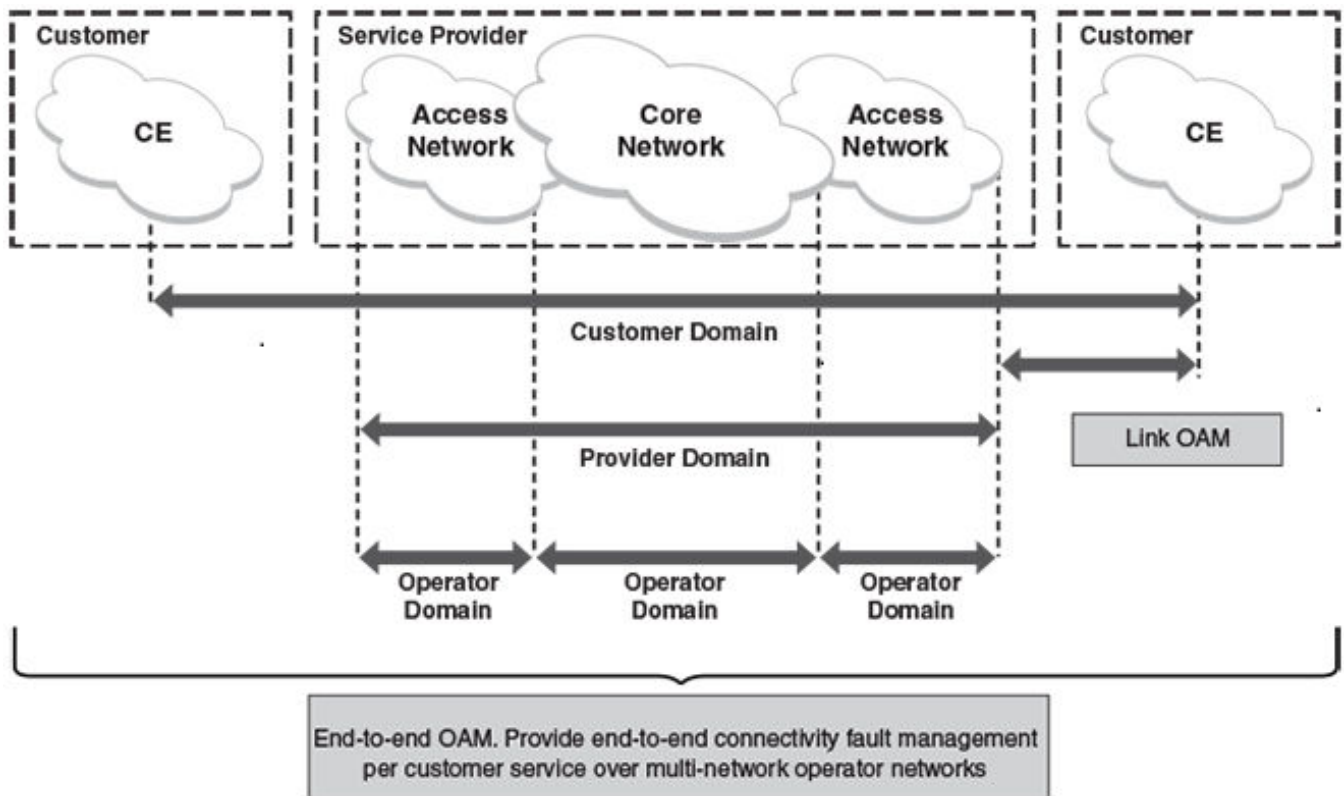

Figure 3: OAM Ethernet tools
A Maintenance Domain (MD) is part of a network controlled by a single operator. Figure 3 on page 13, shows the customer domain, provider domain and operator domain.
The Maintenance Domain levels (MD level) are carried on all CFM frames to identify different domains. For example, in Figure 3 on page 13, some bridges belong to multiple domains. Each domain associates a MD level.